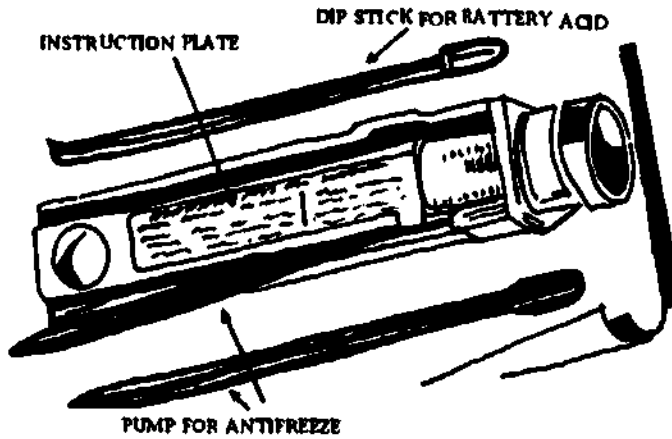
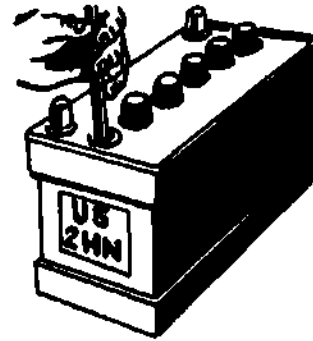

Fig 1-78. Antifreeze and electrolyte tester.
Fig 1-79. Using dipstick to draw sample of electrolyte.
(2) Antifreeze and electrolyte tester (fig 1-78).
- (b) Insert dipstick used for battery testing (fig 1-78) into one cell of the battery (fig 1-79).